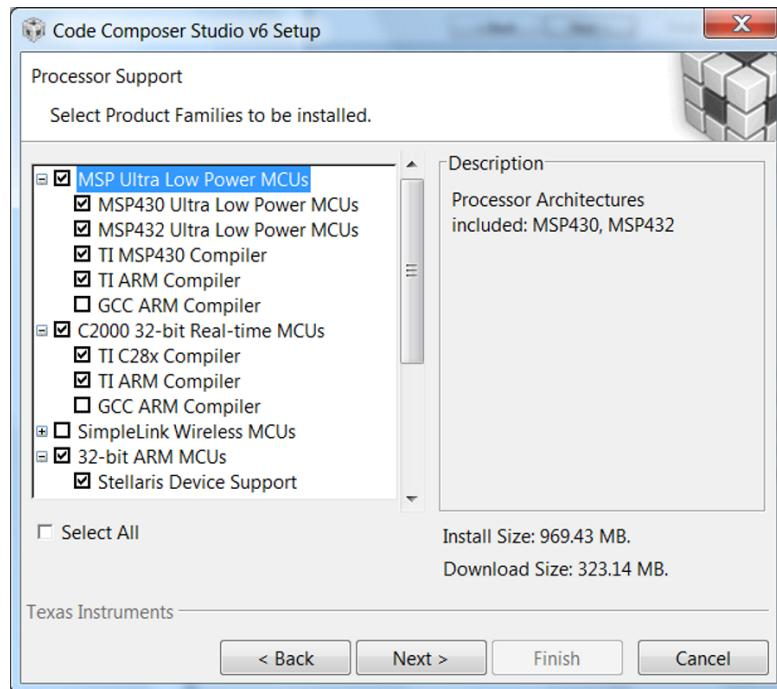

Figure 11. Processors Supported by CCS
- Step 4. Choose the processor architectures to install (see Figure 11).